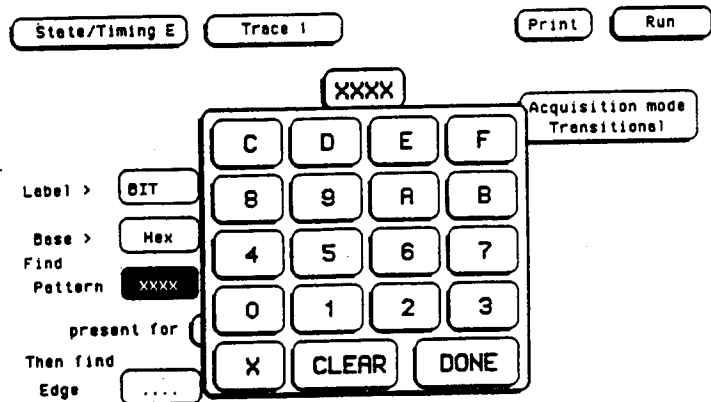

Figure 3-10. Specifying Patterns Keypad Pop-up Menu
1. Touch the field to the right of Pattern. You will see a keypad pop-up (see figure 3-10).